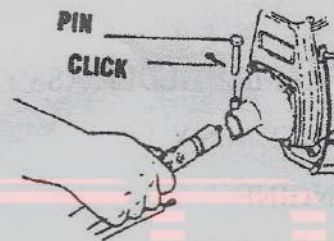

Fig. 2
2. Assembling flexible shaft(Fig. 2)